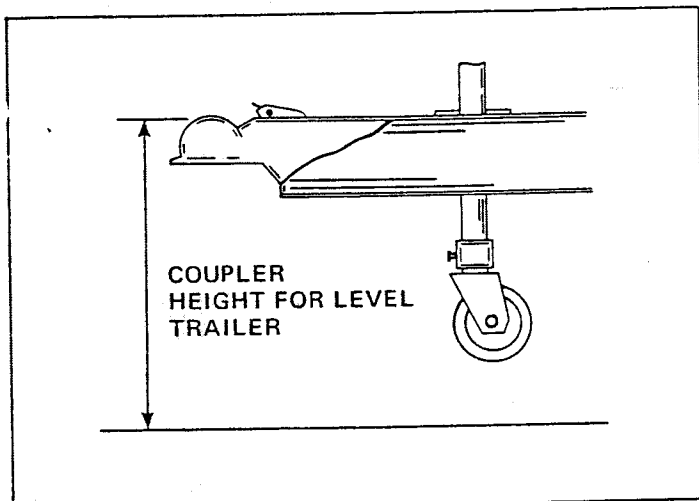

FIG. 5
**COUPLER HEIGHT** — After the trailer has been hitched to the towing vehicle, check the coupler height (FIG. 5). A high hitch will transfer weight behind the axle(s). This condition may cause the trailer to fishtail. A low hitch will transfer weight ahead of the axle(s). This condition will transfer additional weight to the hitch.